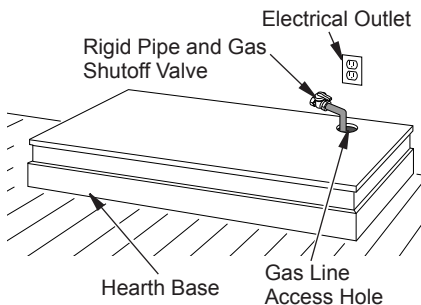

Figure 9 - Placing Hearth Base Accessory Against Wall
2. Install a properly grounded, 120 volt three-prong electrical outlet at fireplace location if an outlet is not there. If possible, locate outlet so cabinet mantel will cover it when installed (see Figure 9).
4. Place hearth base accessory against wall at installation location. Cut an access hole in hearth top to run flexible gas line to fireplace (see Figure 9). Make sure to locate access hole so cabinet mantel will cover it when installed.